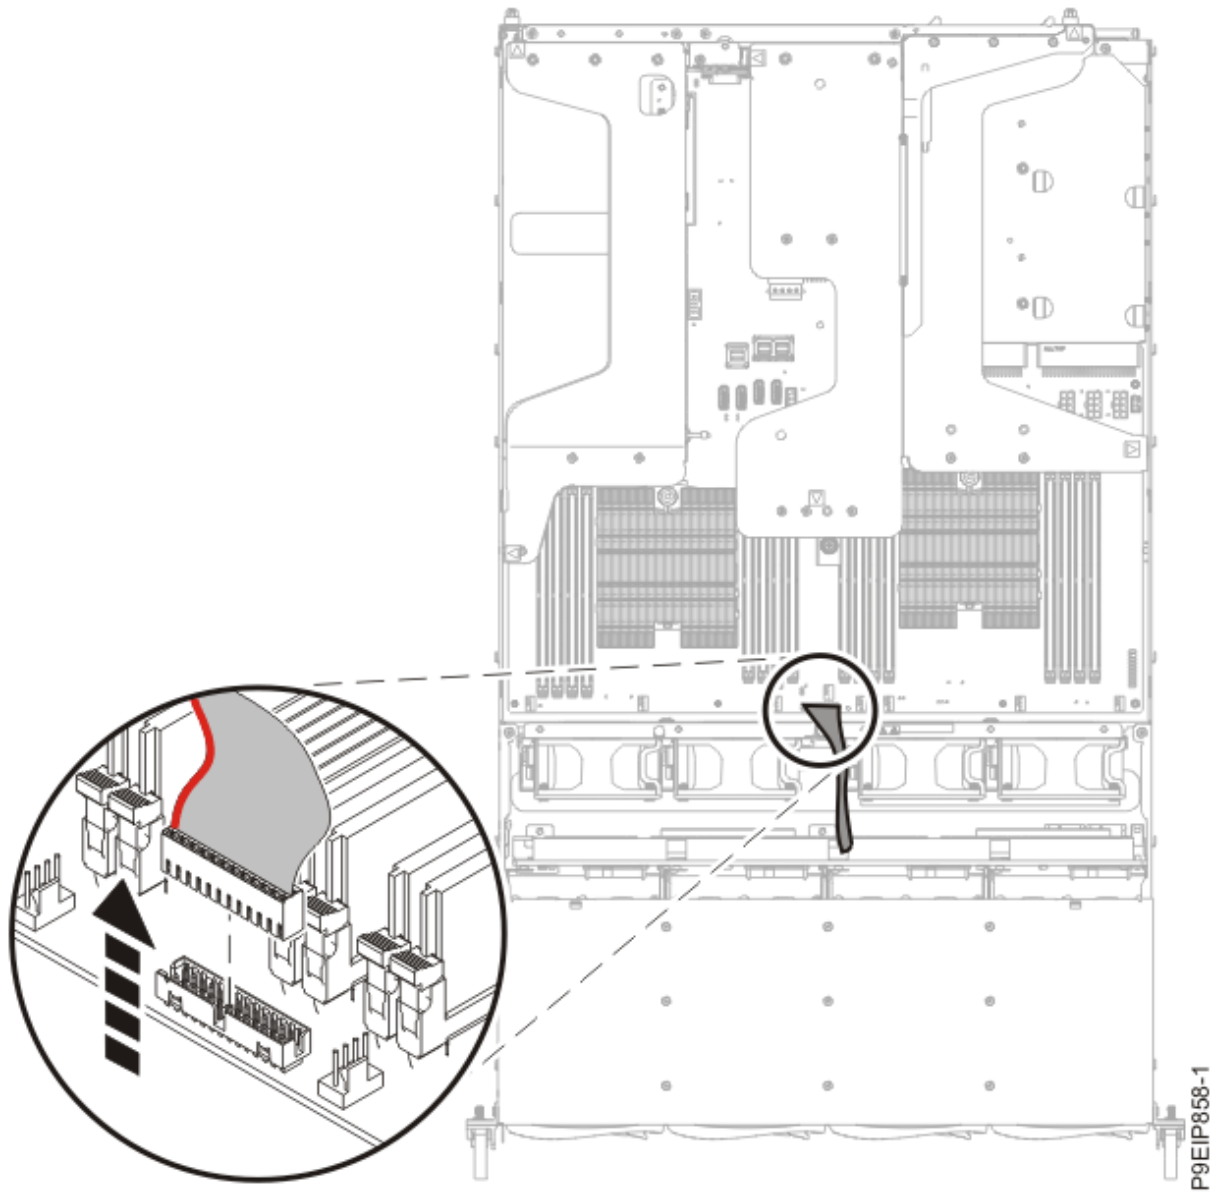

Figure 37. Removing the operator panel cable
7. Remove the operator panel cable from the system backplane as shown in Figure 37 on page 40.